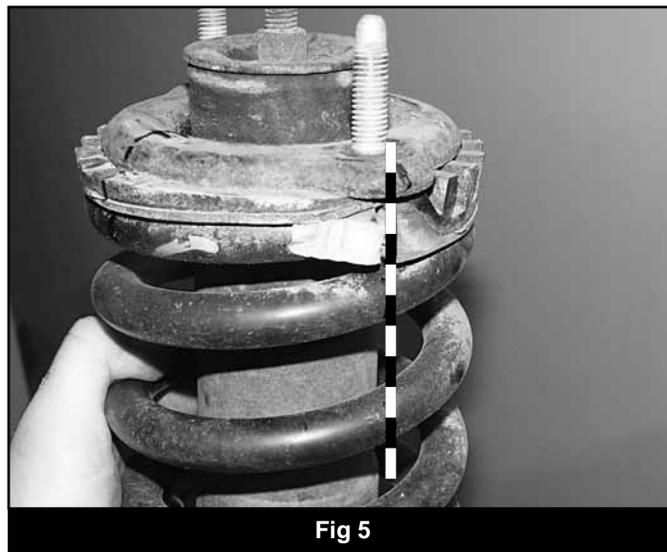

Fig 5
9. Mark the relationships between the top strut plate, coil spring, coil spring mount and strut (Fig. 5). Also mark what side of the strut faces out. The mark on the top plate will need to be transferred to the new top plate provided to ensure the strut is reassemble correctly for proper alignment during installation.